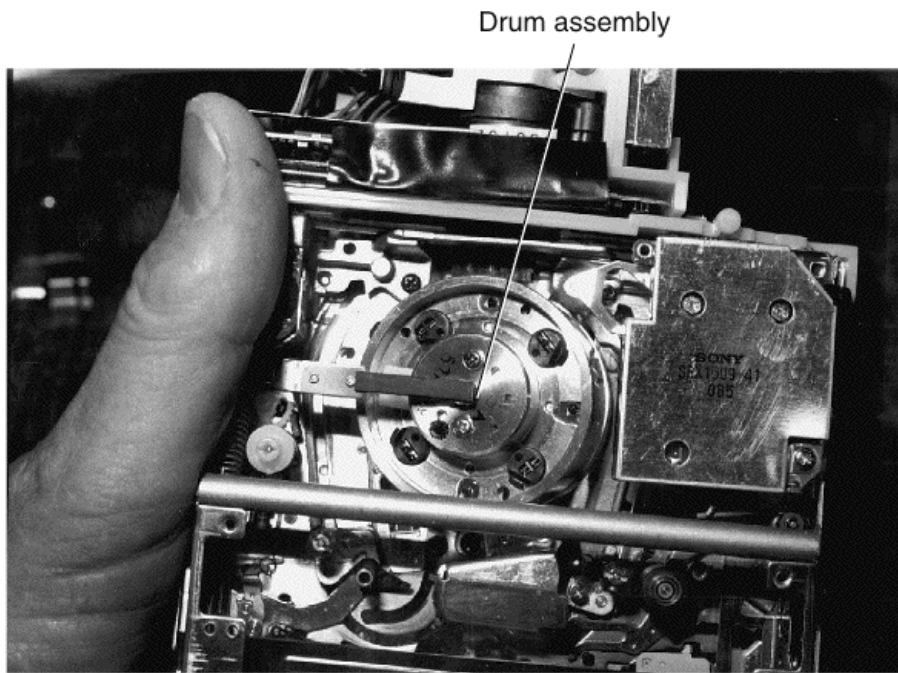

FIGURE 38-8 The drum assembly has the tape wrapped around it in Play and Record mode.
Canon 8-mm drum and capstan assembly The drum head in the Canon 8-mm camcorder has a top section (2) and bottom section. The drum head contains CH 1 and CH 2 with the flying erase head (FE). The drum takes off and applies picture and sound to the 8-mm tape. The tape drum is the largest part on the main chassis (Fig. 38-8).